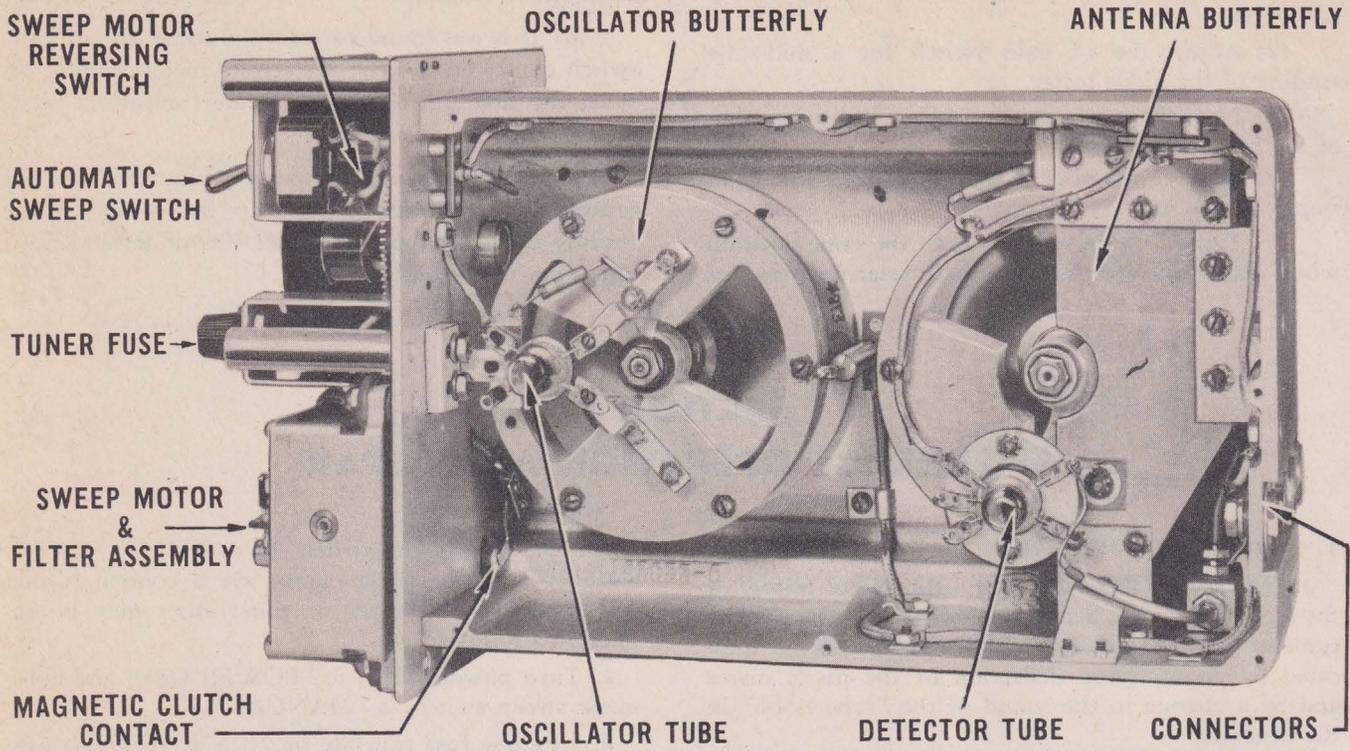
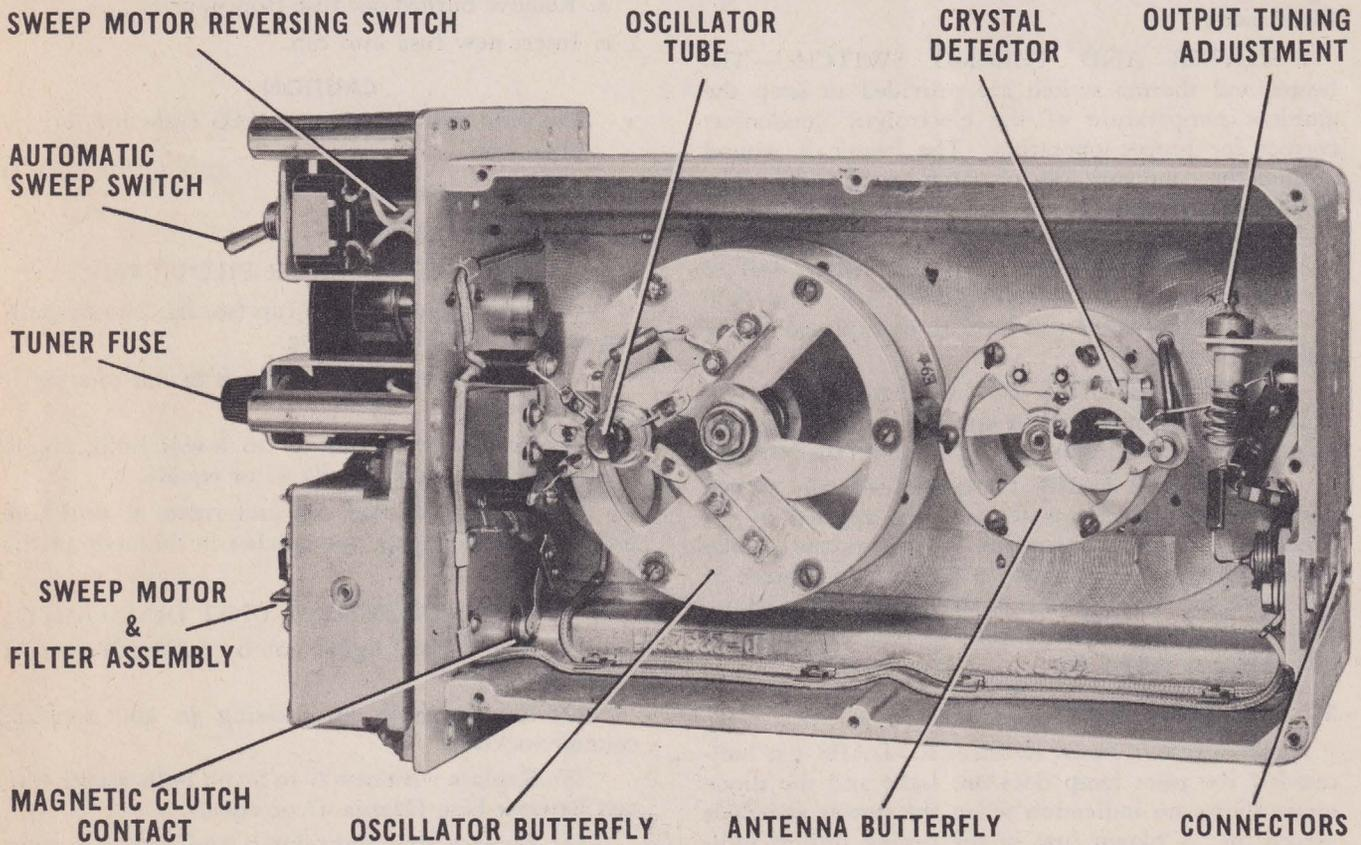

Figure 4-1. Tuning Unit TN-17/APR-4—Right Side View, Covers Removed
Figure 4-2. Tuning Unit TN-18/APR-4—Right Side View, Covers Removed
*a. GENERAL.*—Faulty tubes may be indicated by loss of sensitivity and volume or failure of the hetero-tone generator. The filament in all glass tubes should glow a dull cherry red when the power is on. Except at extremely low temperatures all metal tubes should feel warm or hot when touched. (See fig. 2-2, amplifier tubes; fig. 4-1, Tuning Unit TN-17/APR-4 tubes; fig. 4-2, Tuning Unit TN-18/APR-4 tubes.)
- (1) Disconnect all cords and loosen the two knurled hold-down nuts at the lower corners of the receiver panel. Remove the receiver from Mounting Base MT-171/U.
- (2) Remove the screws in the top of the case and loosen the fasteners in the rear of the case.
- (3) Withdraw the receiver from the case.
- (4) Replace defective tube by one known to be good. Use JAN-type tubes as indicated by each socket.
- (5) Slide receiver into the case; lock rear fasteners, and replace top screws.
- (6) Return receiver to mounting base and tighten hold-down nuts securely.
(7) Connect all cables and cords.